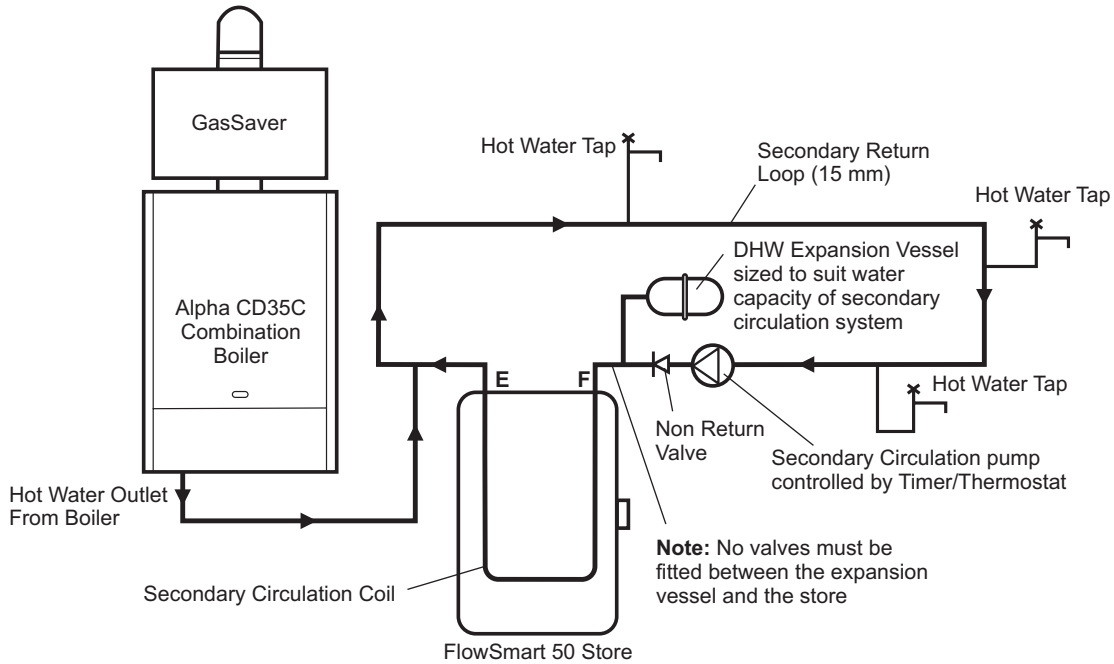

Fig. 6
### 3.7 ALPHA FLOWSMART 50 - SECONDARY CIRCULATION - See Fig. 6
**Note: 50 L only** - If a DHW secondary circulation circuit is used, the connections with the white collar (E and F) must be connected to the circuit. Refer to Section 3.7 and Fig. 6.